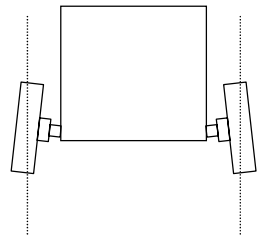

FIGURE 18
3. **Wheel Angle** - Adjust each wheel so that it is straight up and down, not at an angle (see Figures 18 and 19).